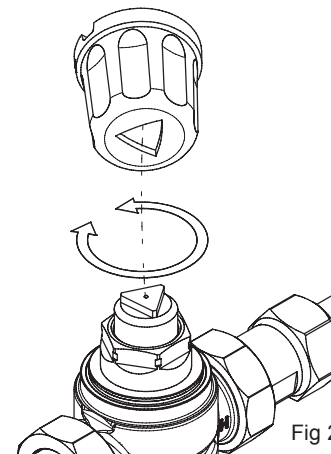

Fig 2
2. With both the hot and cold supplies turned on and the terminal fitting open, test and record the hot and cold inlet temperatures. Then adjust the temperature to the required setting, using the adjuster cap (Fig 2).